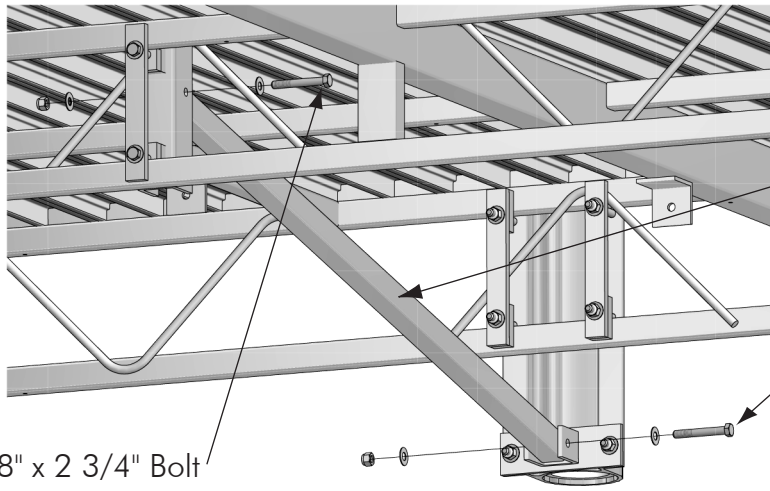

Fig. 5
6. Attach the hammock support tube to the front and rear support mounts as shown in Fig. 5. Each end is fastened using a 3/8" x 2 3/4" bolt, (2) 3/8" flat washers and a 3/8" nylock nut. Torque to 25 ft/lbs.